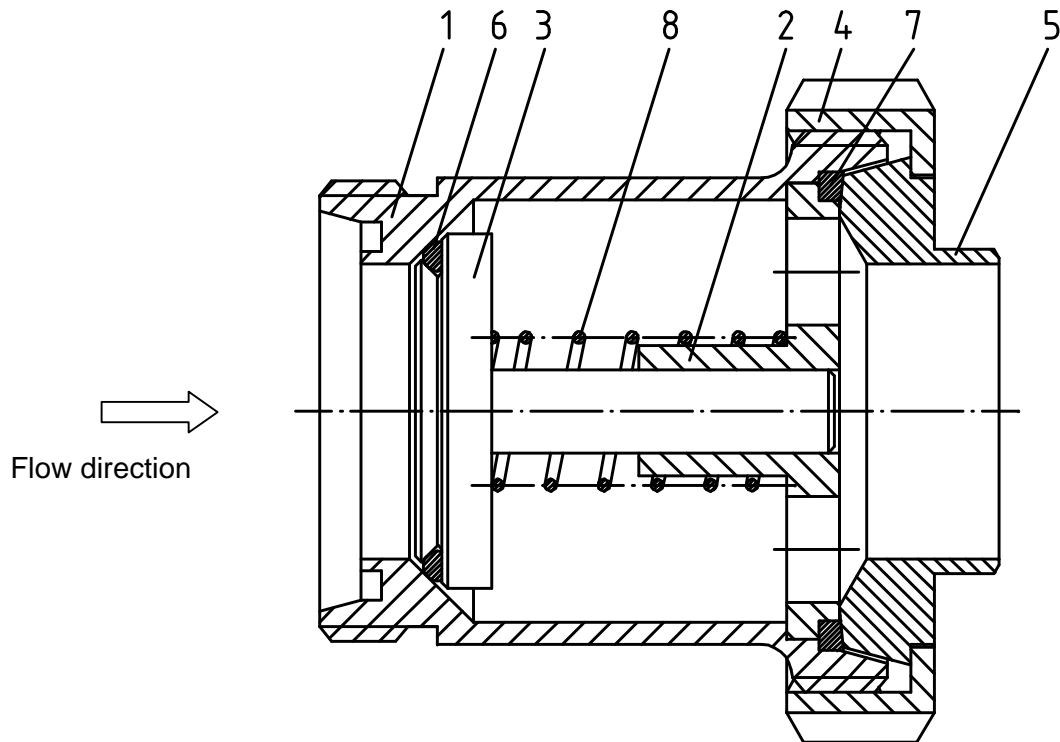

Fig. 1 Sectional view of non-return valve DIN GS (dimensions see chapter 10.1)
The non return valve is a spring loaded valve that prevents return flow of liquid or gaseous media in a system or a line. The installation position can be selected freely. Only the flow direction must be taken into consideration (see Fig.1). By default, the non-return valve is delivered with a threaded connection at the inlet side and a welded connection at the outlet side. Other connection options are available upon request.
- But pay attention to the flow direction (see Fig.1). The flow direction is additionally marked on the valve housing by means of an arrow.
- Remove grooved nut (4) and reducer cone liner (5).
- Remove the O-ring (6) from the valve cone (3).